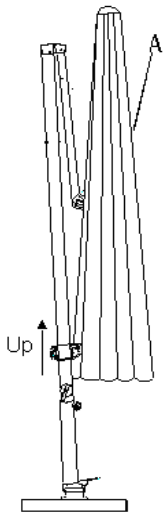

Fig.4
Insert the umbrella (A) into the column (B). Secure the canopy at the same direction with the foot lever of the rotation device, and then loosen the umbrella tie. (Fig. 4)